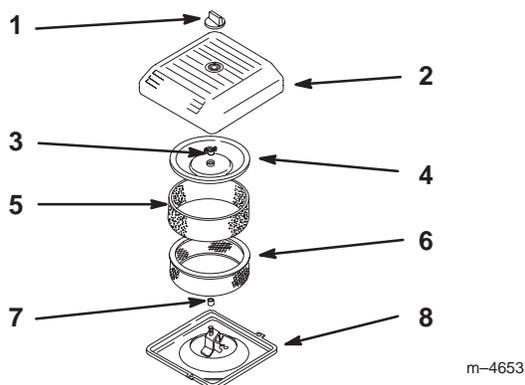

Figure 24
4. Unscrew the knob and remove the air cleaner cover (Fig. 24).
5. Carefully slide the foam pre-filter off of the paper element (Fig. 24).
6. Unscrew the cover nut and remove the cover and paper filter (Fig. 24).
1. Carefully slide the foam pre-filter onto the paper filter (Fig. 24).
2. Place the air cleaner assembly onto the air cleaner base (Fig. 24).
3. Install the cover and secure it with the wingnut (Fig. 24).
4. Install the air cleaner cover and secure with the knob (Fig. 24).